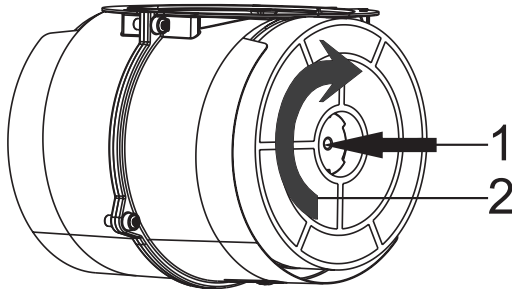

Fig. 6: AF 90 CARBON FILTER
1. Place the carbon filter in its housing. Fig. 6